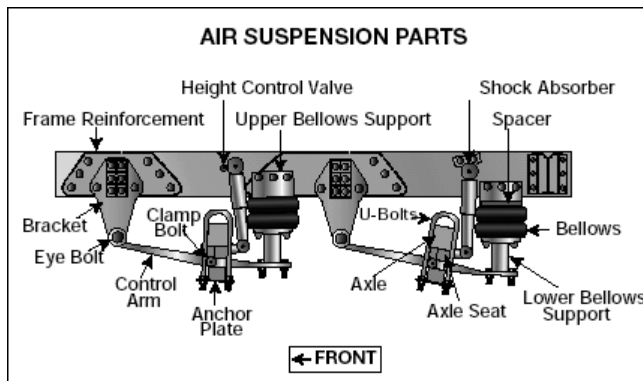

Figure 2.4
- Air suspension systems that are damaged and/or leaking. See *Figure 2.4*.